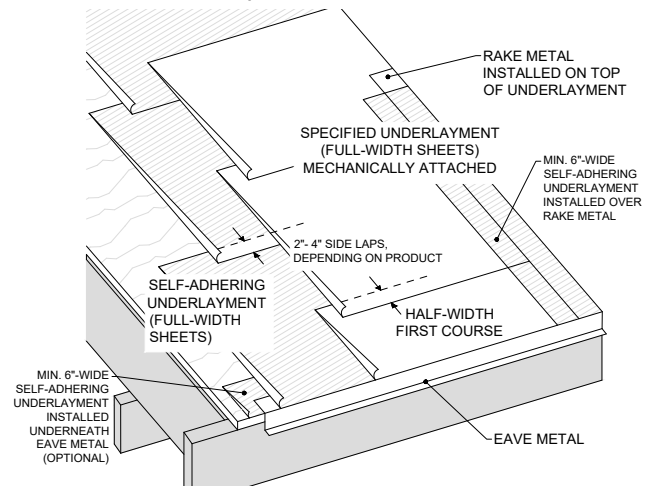

Figure 41 - Initial Layer of Self-Adhering Underlayment Followed by Mechanically-Attached Underlayment
- Initial layer of Secure Start HT and one additional layer of mechanically-attached underlayment (Right Start UDL or Secure Start SG/Plus/Permeable) (See Figure 41)
- Install an initial layer of Arctic Seal or Secure Start HT and one additional layer of mechanically-attached underlayment (Right Start UDL or Secure Start SG/Plus/Permeable). Two (2) layers of Arctic Seal are also acceptable. (See Figure 41)